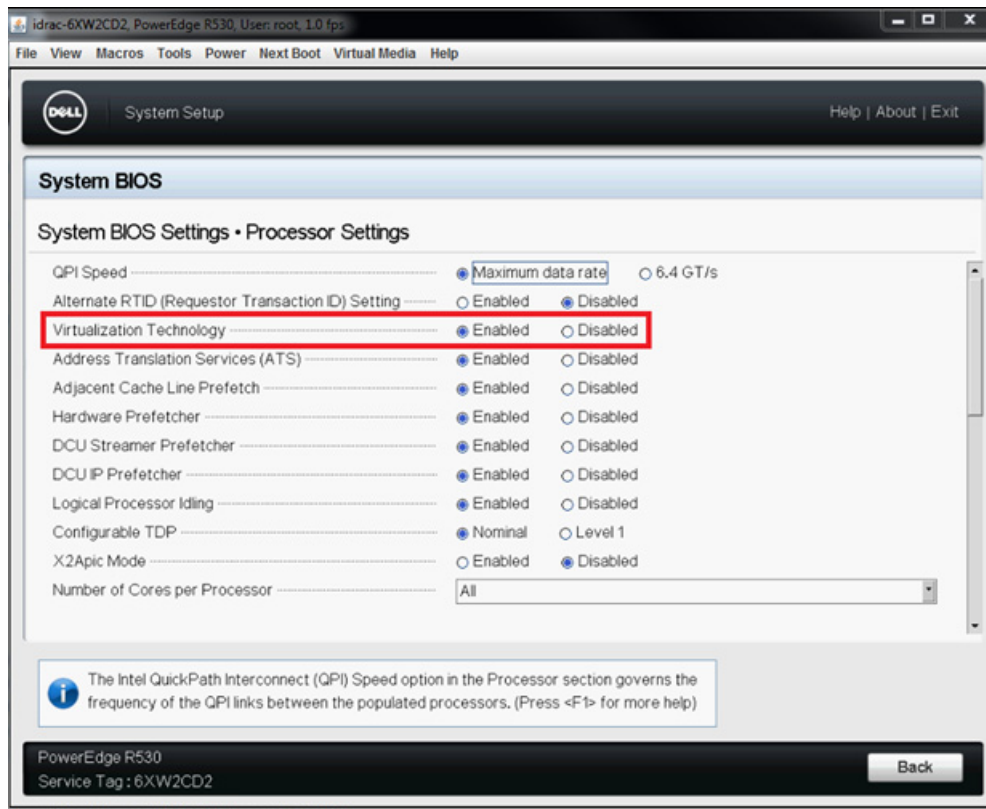

Figure 8-8. System Setup: Processor Settings for SR-IOV
5. On the Processor Settings (Figure 8-8) page: